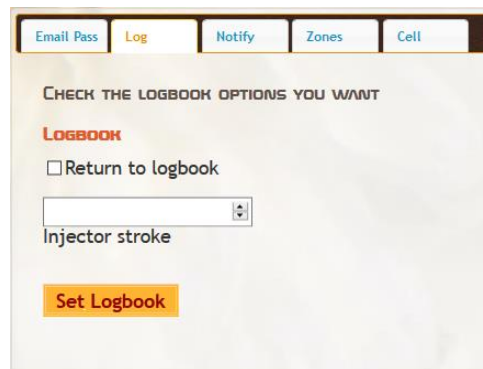

Fig. 32
1. On the Log tab in useredit page you can set change your return to logbook and injector stroke.(See fig. 32)